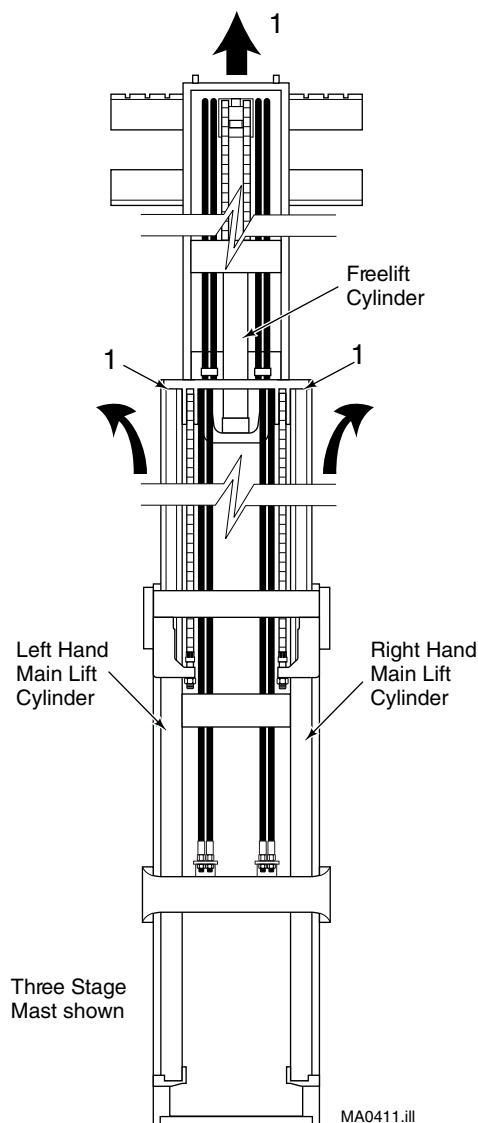

Figure 9. Extending Upright.
- 1 Extend the mast to full lift height. See Figure 9.